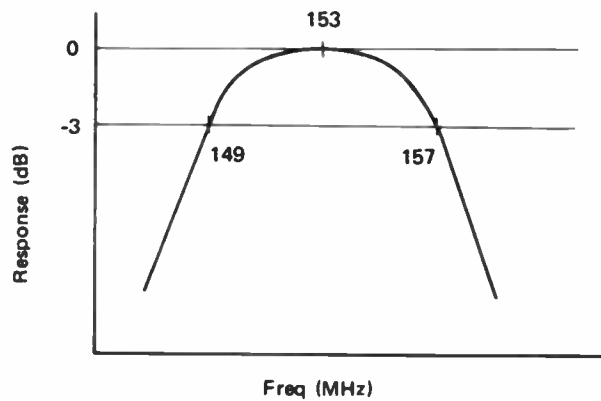

Fig. 4
- STEP-3 Adjust L1, L2, L3 and L4 of RF FRONT END for maximum output and best symmetry curve. See Fig. 4